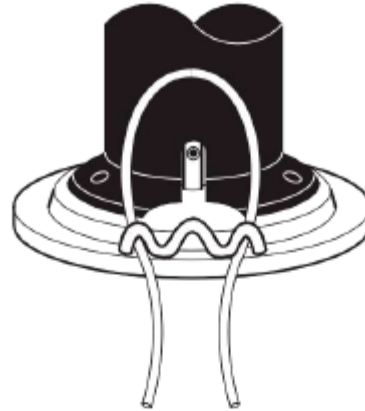

Figure 13
4. Insert the new cord through the holder as shown in Figure 13.